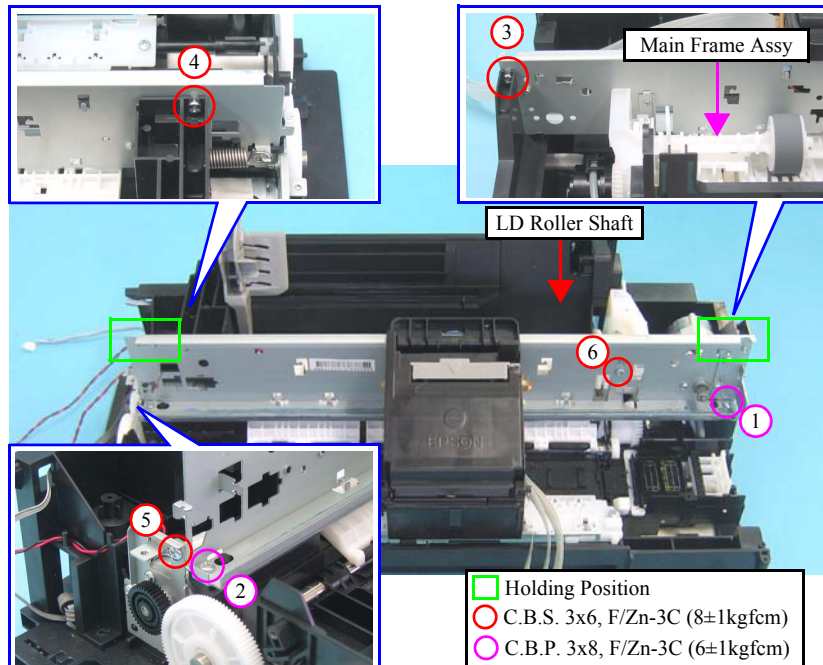

Figure 4-83. Removing the Main Frame Assy
- Tighten the screws in the order given in Figure 4-83.